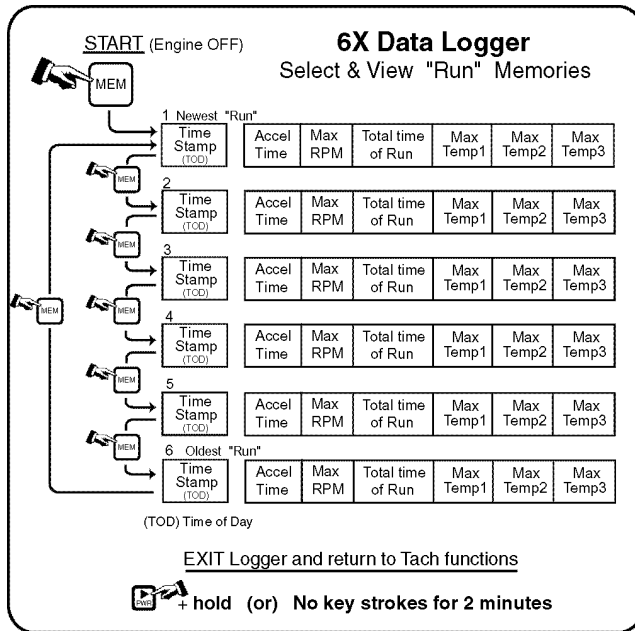

Figure 6a
2. Depress to enter the "Data Logger" mode, see Figure 6a, the alarm LED blinks.
1. With the engine OFF, depress . The SportTACH enters the “Data Logger” mode, see Figure 6a